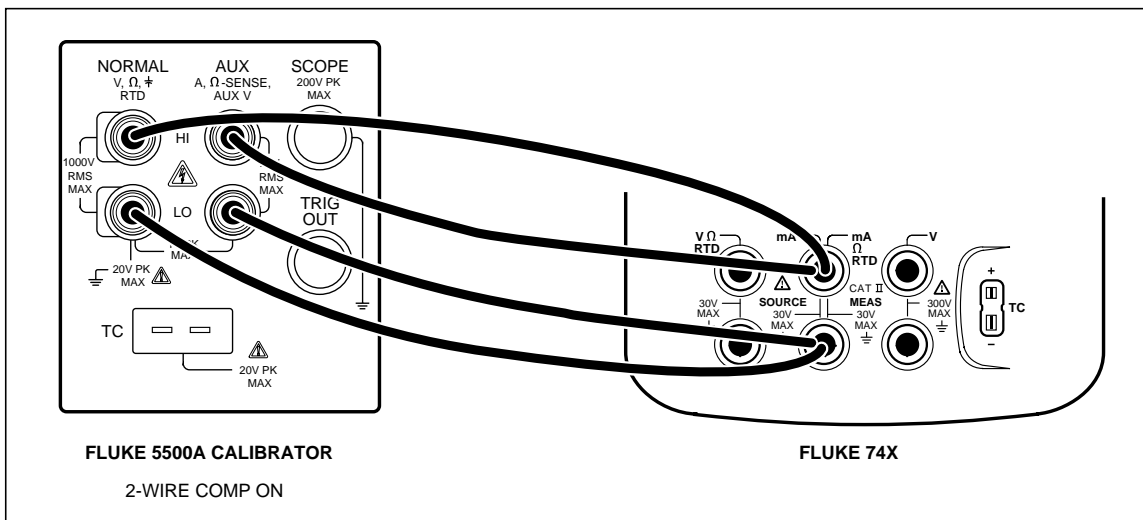

Figure 4. Resistance Measurement Verification Connections
1. Connect the UUT to the 5500A as shown in Figure 4. Use a four-wire connection at the 5500A, transitioning to two wires at the UUT, and turn Two-Wire Compensation on.